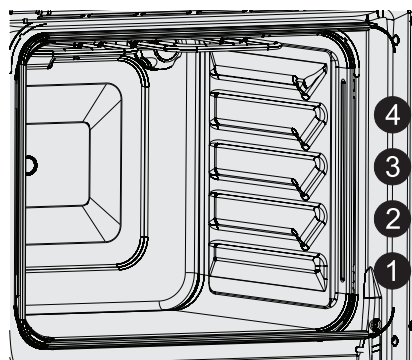
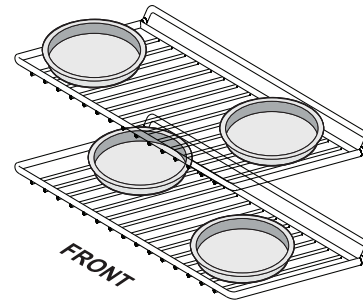

Figure 15: Oven rack positions
Figure 17: Baking with multiple levels & racks
- For best results when baking with one oven rack, place racks in positions 2 or 3 (Figure 15).
- For best results when baking cakes or cookies using two oven racks, place racks in positions 1 and 3 (Figure 15) and place pans as shown in Figure 17.